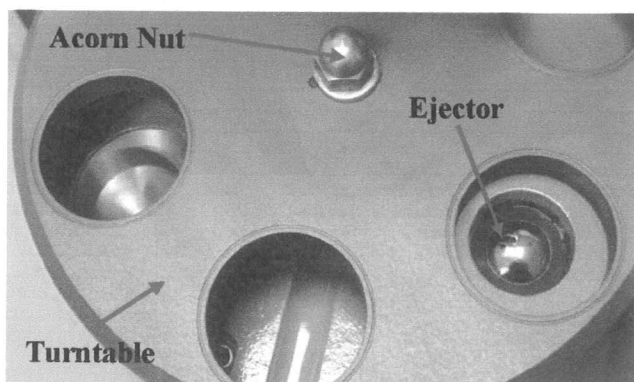

Fig. 10 – Removing Turntable
4. Hold table and loosen acorn nut In the center of the table (see Fig. 10).